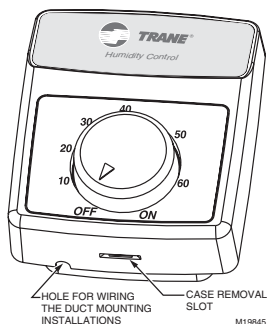

Fig. 1. Humidity control.
The humidity control provides automatic low voltage control of humidifiers in central heating and cooling equipment for both humidification and dehumidification applications. See Fig. 1. It has an spst, snap-acting, dust-proof switch that opens when humidity rises above the control setting. It is designed for wall or surface duct mounting.
6. Remove the humidity control case from the base. See Fig. 1.
4. Remove the humidity control case from the base. See Fig. 1.